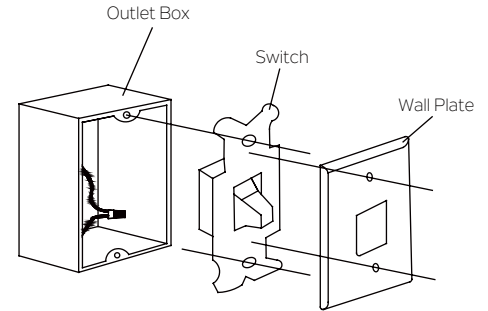

Fig. 25
Step 1. Remove the existing wall plate and the old switch from the wall outlet box. Wire nut the BLACK leads (hot) together and push back inside the outlet box. (Fig. 25) or select the desired location with a new wall outlet box.